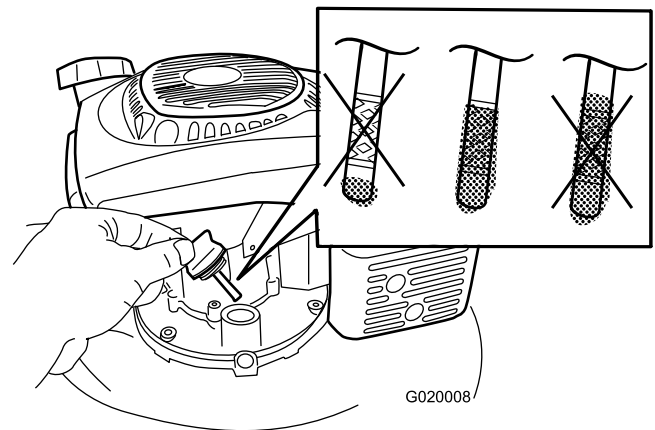

Figure 18
- Slowly** pour oil into the oil-fill tube until the oil level reaches the Full line on the dipstick (Figure 18). **Do not overfill.** (Max. fill: 0.65 L (22 oz), type: 10W-30 or SAE 30 detergent oil with an API service classification of SJ or higher.)